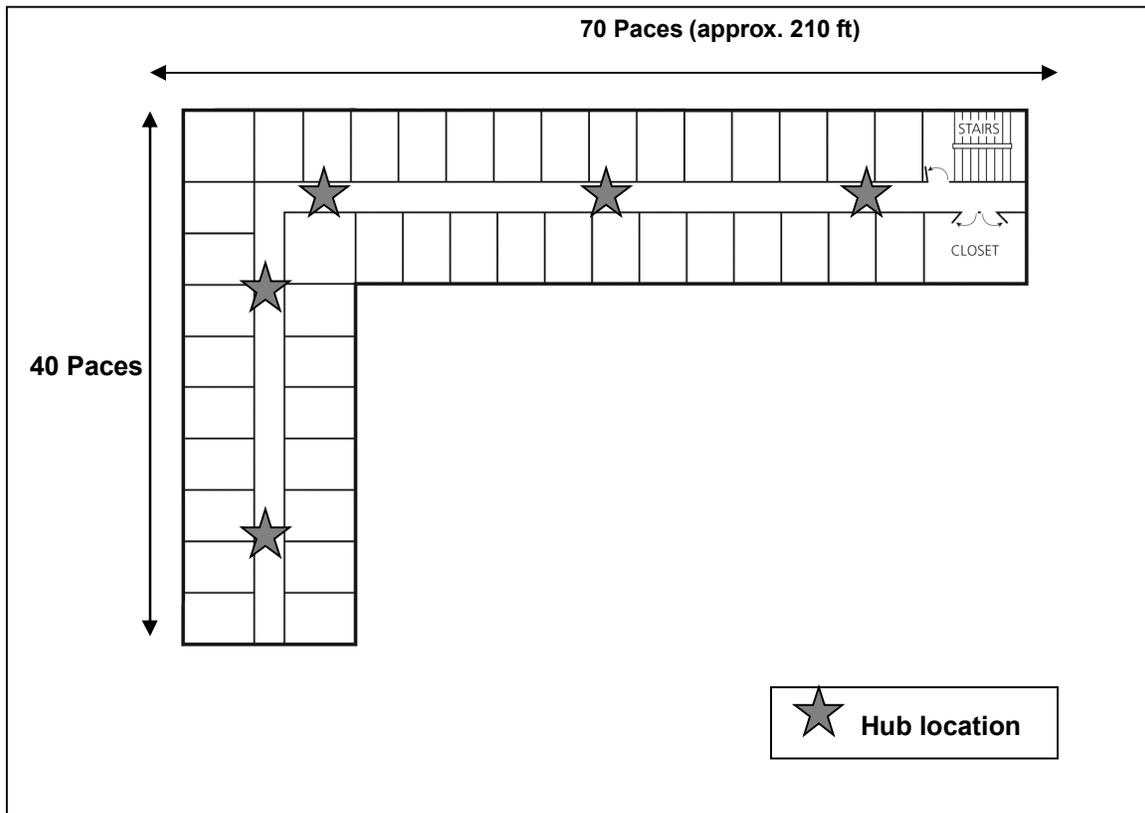

Figure 16 . L shaped floor
- The ZigBee signal does not bend around corners constructed of concrete and/or metal framing. You may need to place a hub on each side of a corner. (see figure 16, page 15)
5.1.3 The property illustrated in Fig. 16 features floors shaped like an L-shape.